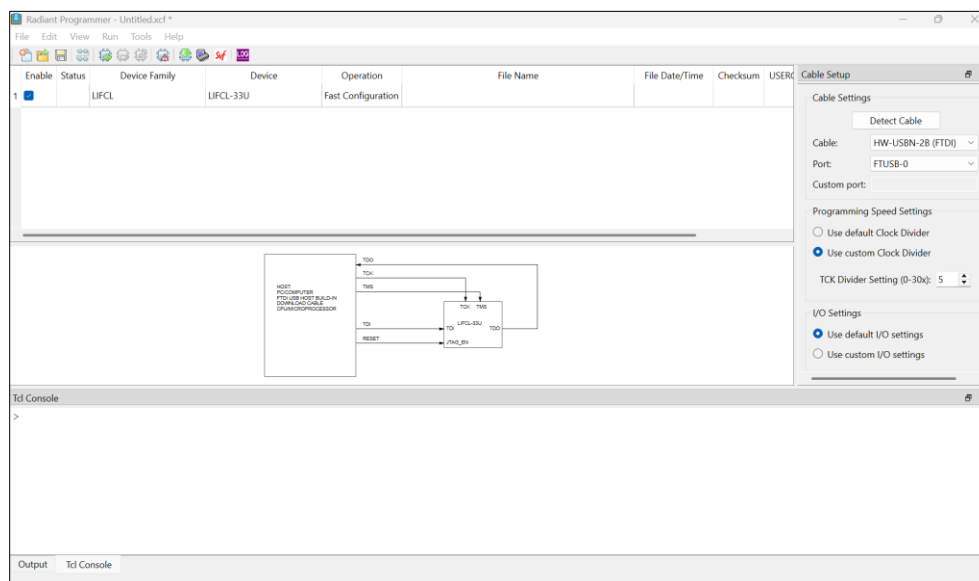

Figure 6.2. Lattice Radiant Programmer Window
5. The Radiant Programmer main interface opens, as shown in Figure 6.2.